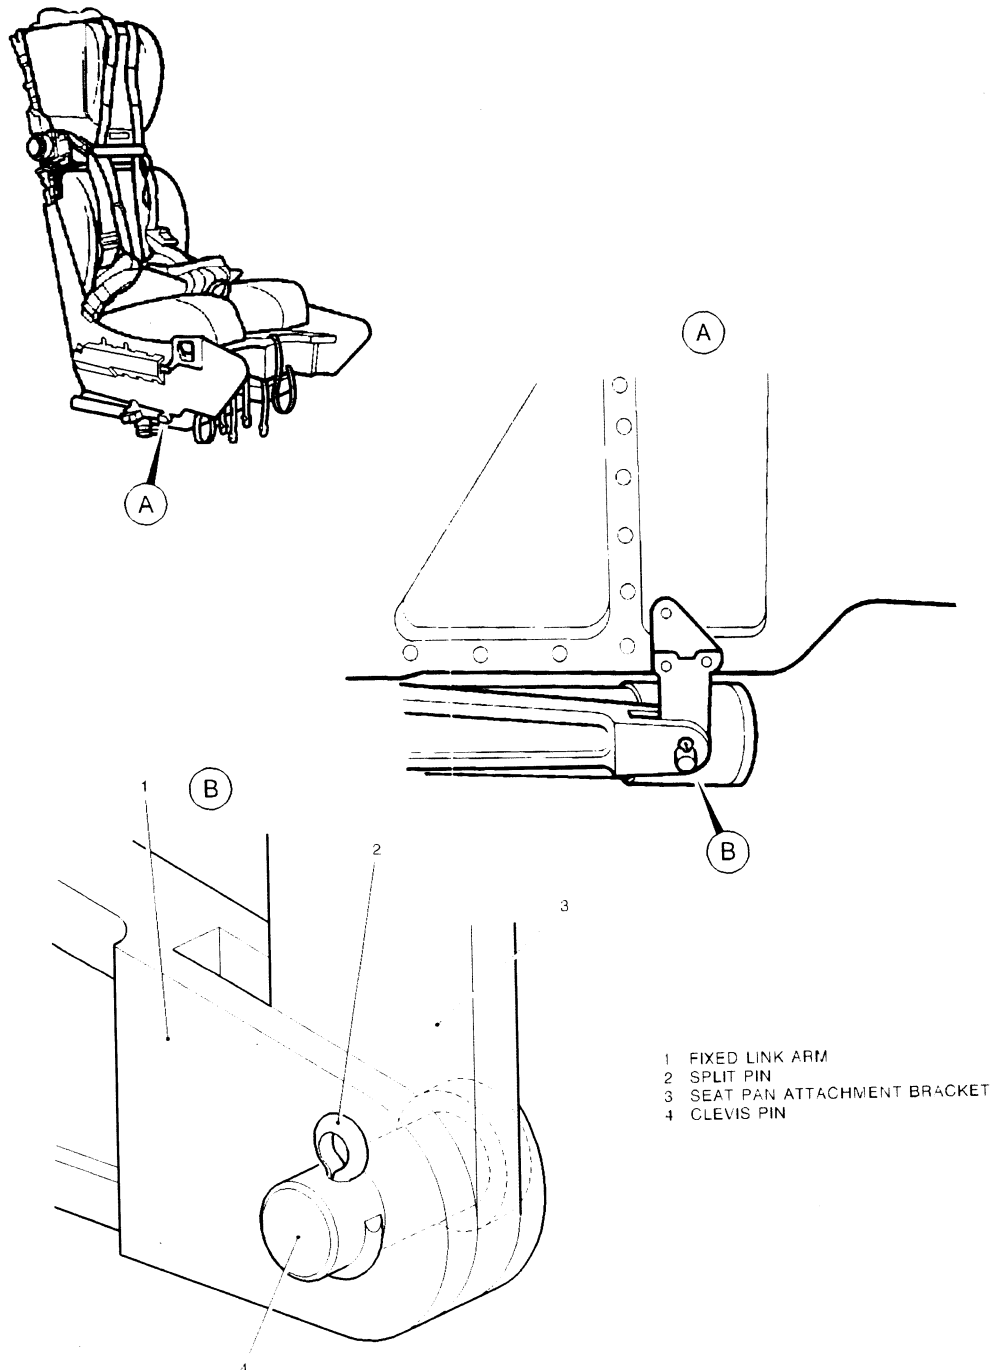

Fig. 5. Rocket pack fixed link arm attachment
- (ii) Refit the clevis pin and a new split pin, ensuring the split pin is positioned outboard of the seat pan attachment bracket (Fig. 5)